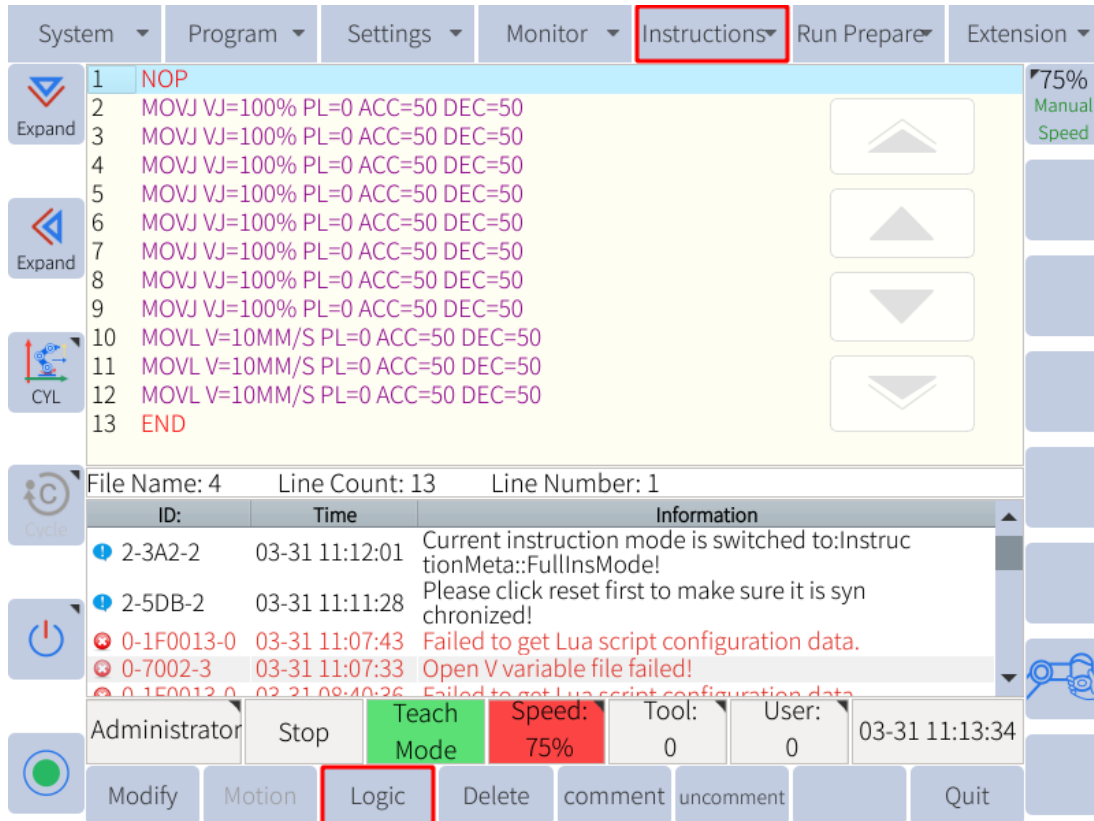

Figure 6-36 : Inserting other instructions
2. Press “Instruction” under the main menu (or “Custom” in the submenu area) to select the instruction to be inserted (see **Figure 6-36**)